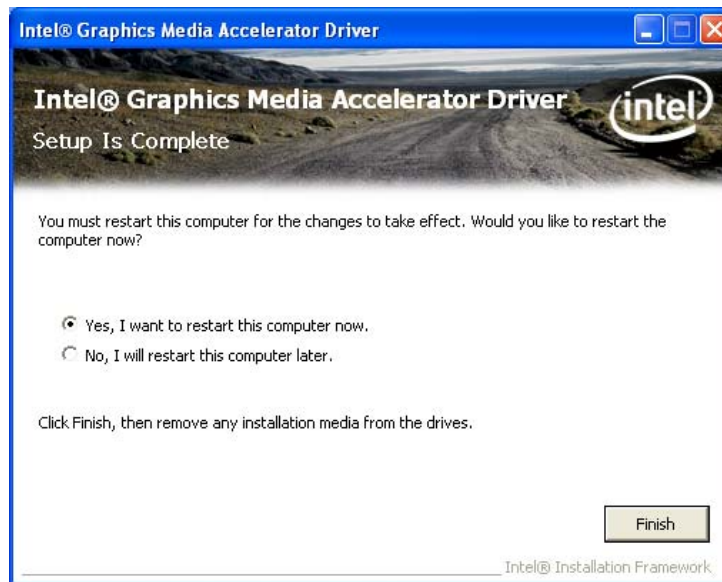

Figure 6-14: VGA Driver Setup Is Complete Screen
Step 17: Select “**Yes, I want to restart the computer now**” and click **FINISH**. See **Figure 6-14**.